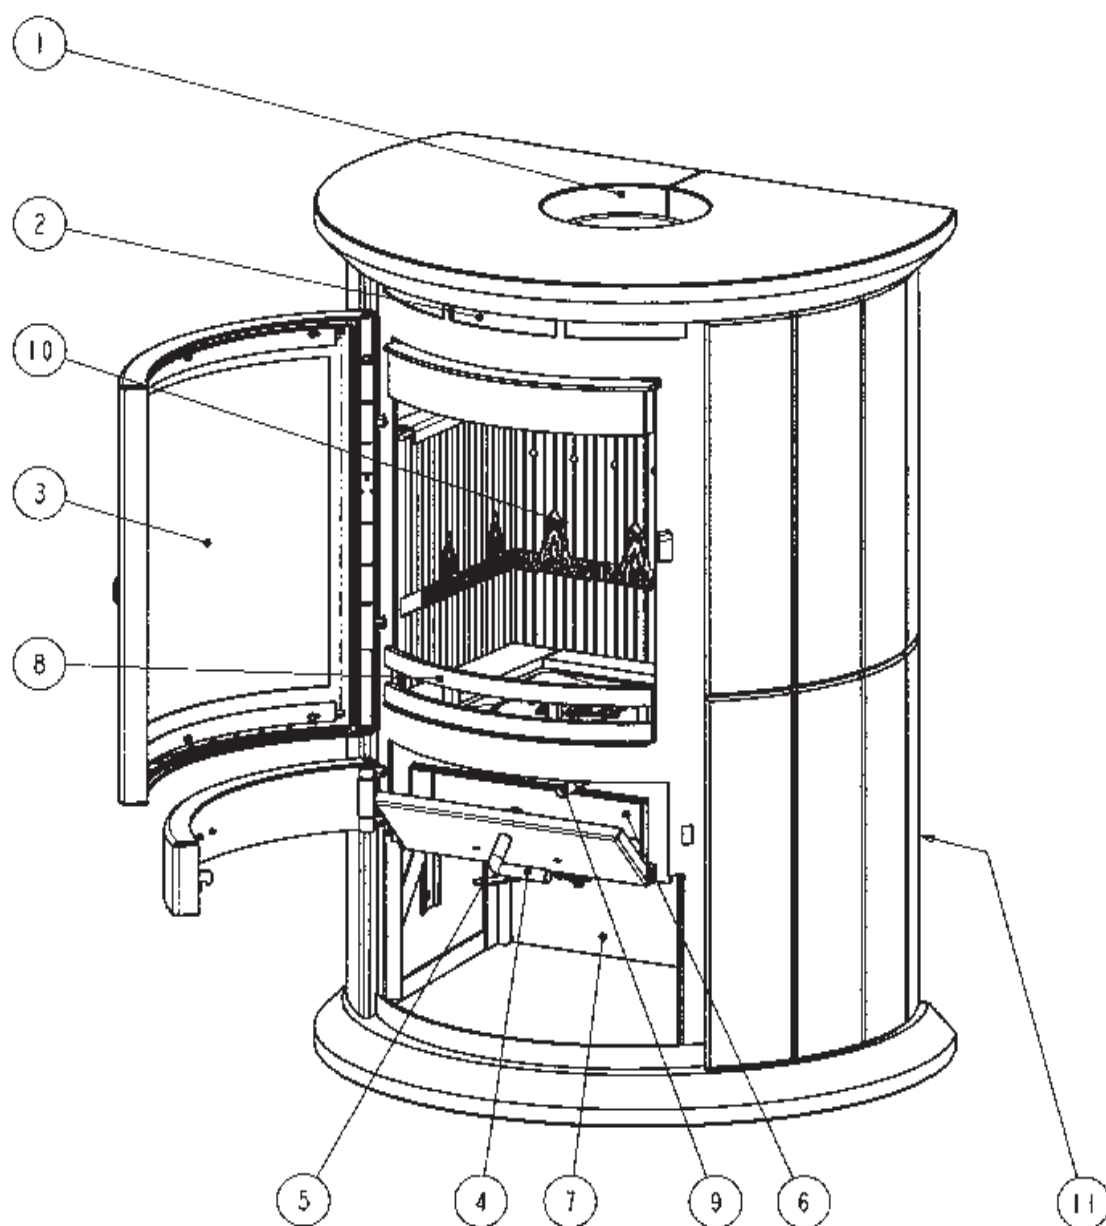

Figure 3: Commande
6.2. AMORÇAGE DU FEU (Figure 3)